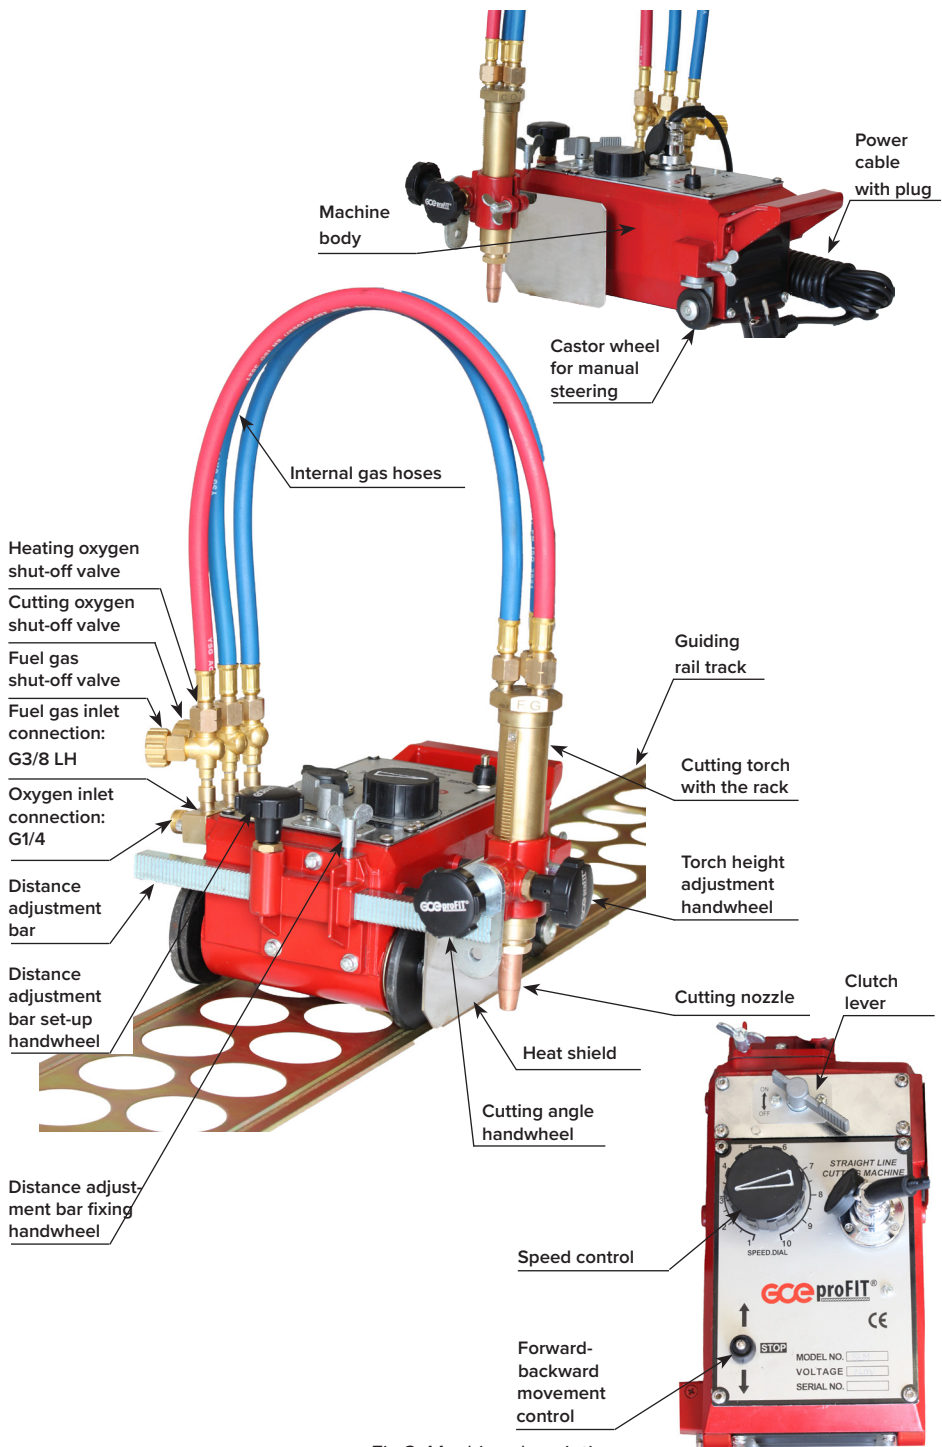

Fig.3: Machine description
4.5.5. Fully open cutting oxygen valve in the same time and start moving machine by switching of movement control knob in requested direction as shown on the Figure 3.